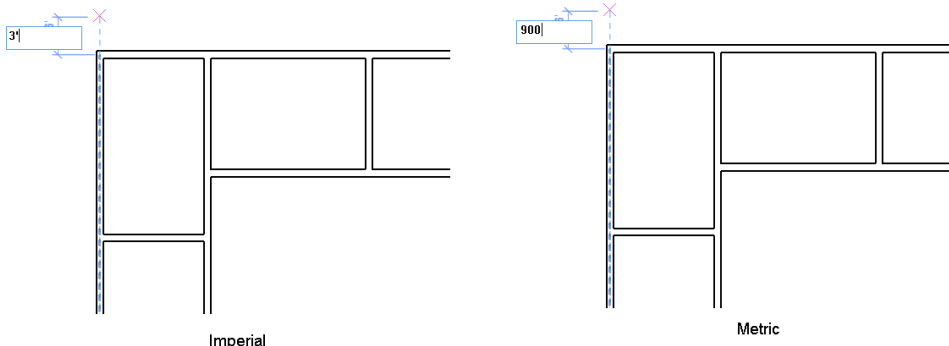

Figure 3-74 Specifying the start point of the grid line
4. Move the cursor near the top left corner of the exterior wall profile till a vertical extension line is displayed. Click to specify the start point of the grid line when the temporary dimension of **3'0"** for Imperial or **900 mm** for metric is displayed from the centerline of the exterior wall, as shown in Figure 3-74.